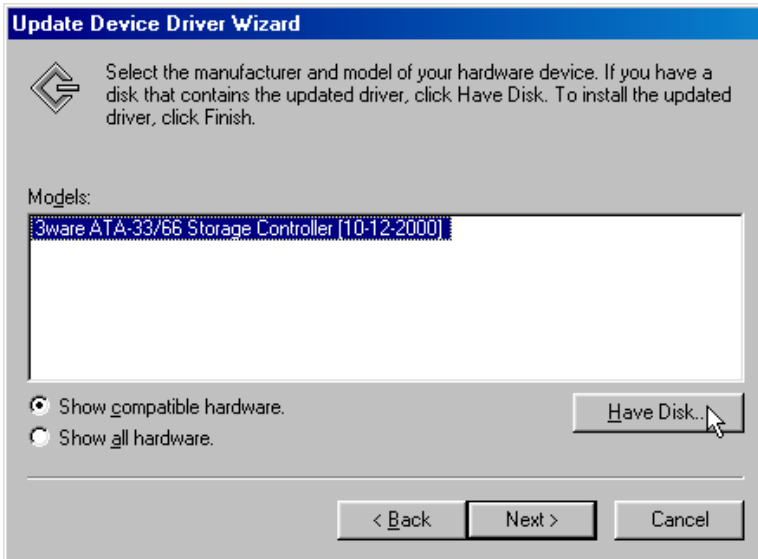

Figure 28. Select a Device Driver Display
- 2 The **Select a Device Driver** dialog appears (see Figure 28). Click on the **Have Disk...** button.